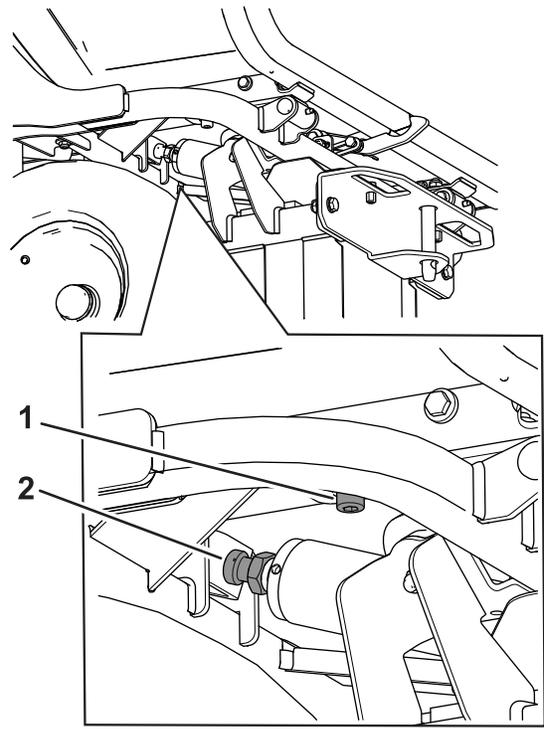

Figure 109
2. If you need to get the desired movement of the hopper, loosen the safety nut at the top of the hydraulic cylinder rod (Figure 109).